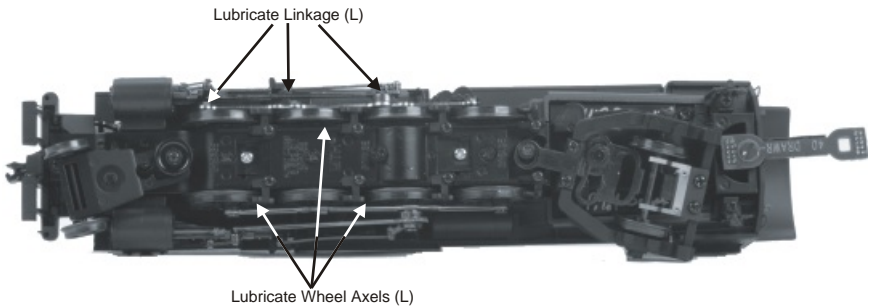

Figure 8. Lubrication Points on the Locomotive
You should regularly lubricate all side rods, linkage components and pickup rollers to prevent them from squeaking. Use light household oil and follow the lubrication points marked “L” in Fig 8. Do not over-oil. Use only a drop or two on each pivot point.
1. Remove the body mount screws as shown in Fig 8 and separate the boiler from the chassis.